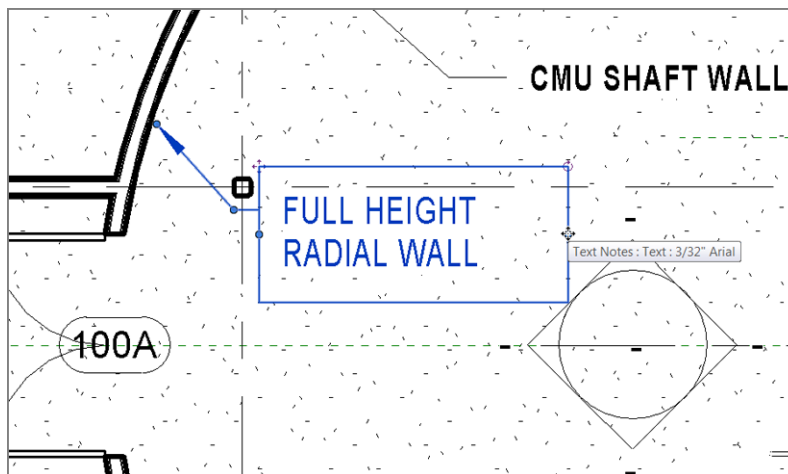

FIGURE 5.53: Configuring the arrowhead
That's a handsome-looking arrowhead, as shown in Figure 5.53. The next item to address is how to modify the placement of text after you add it to the model.
3. Stretch the text window to the left until it forces the text to wrap, as shown in Figure 5.53.